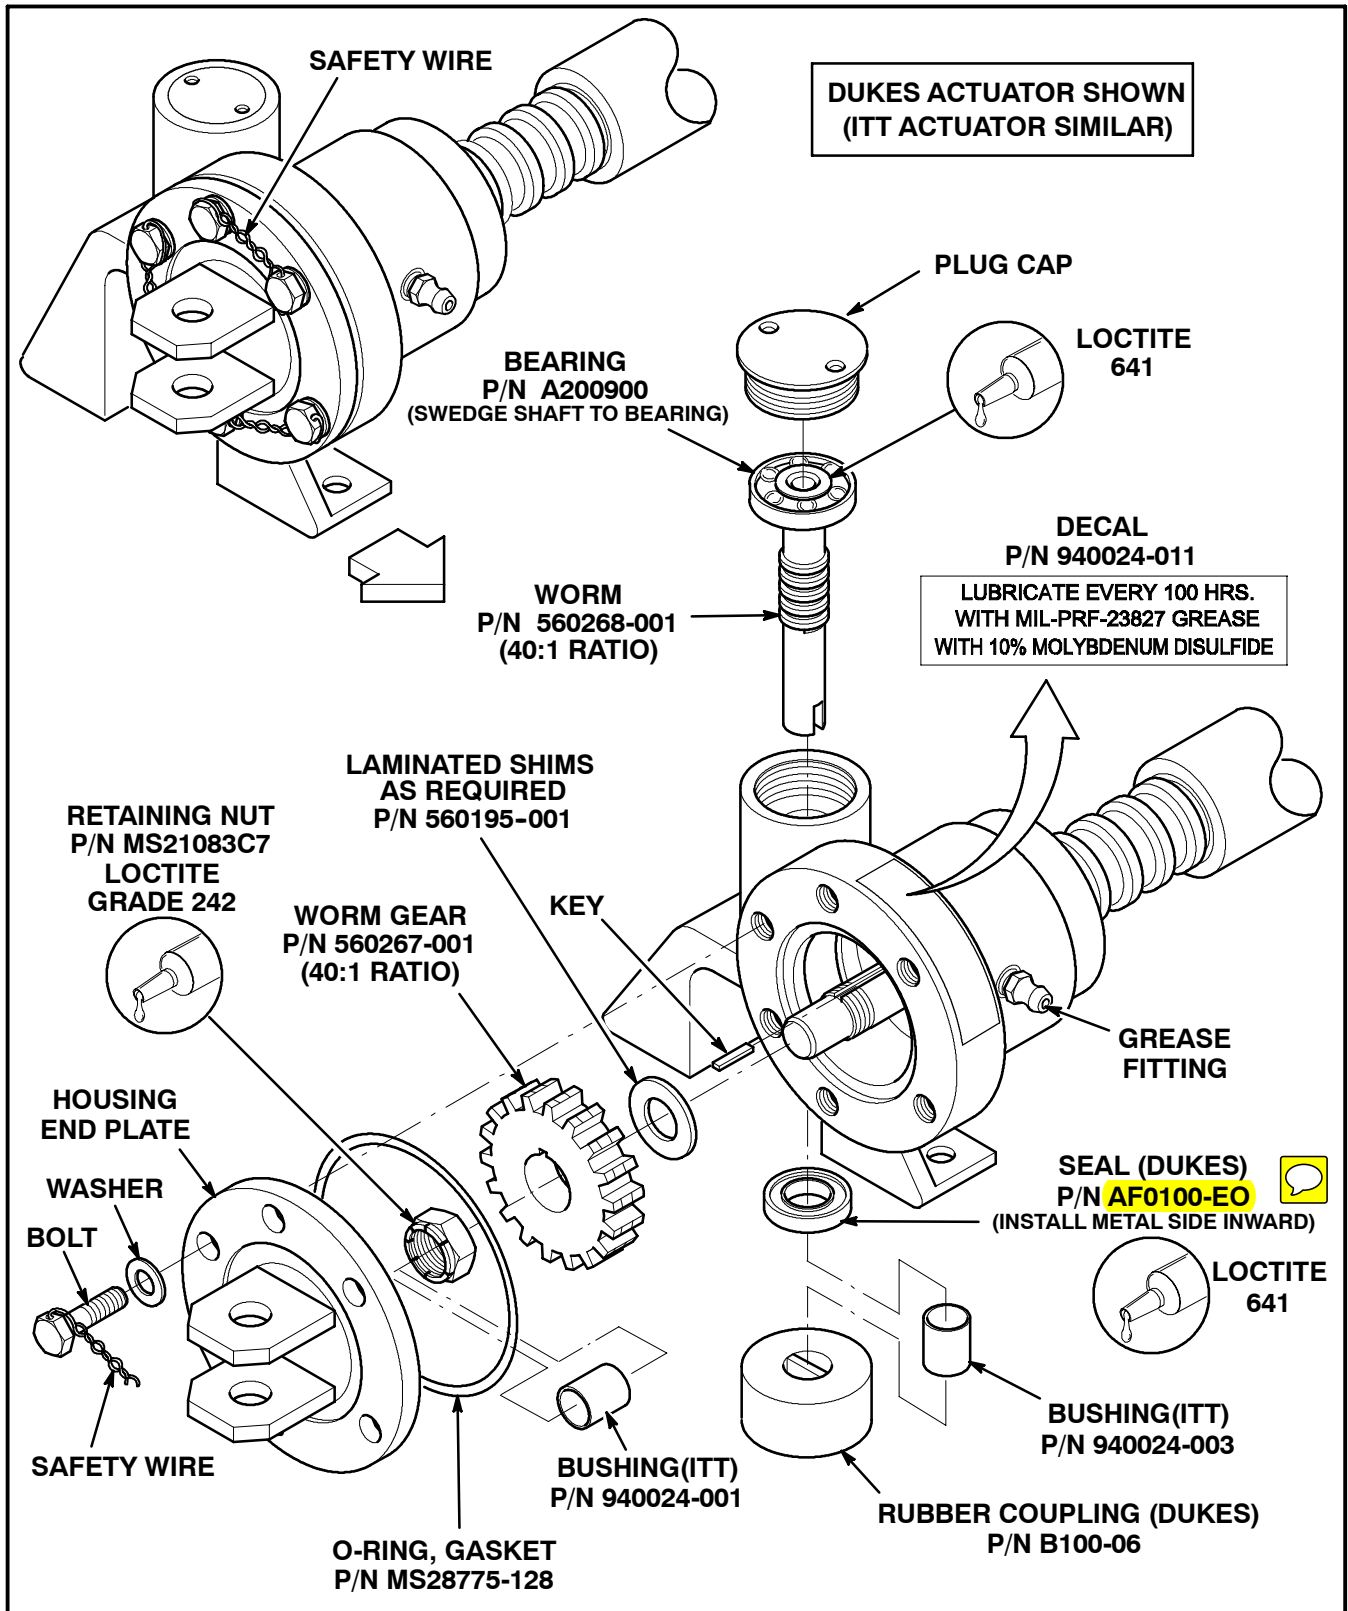

FIGURE 2 - DUKES ACTUATOR EXPLODED VIEW (4196-00-1C - SHOWN)
11.  Install new bushing 940024-003 into housing (ITT) or apply Loctite™ 641 to new lower seal **AF0100-EO** (Dukes) and install into housing assembly, metal side inward until flush with housing (See Figure 2).